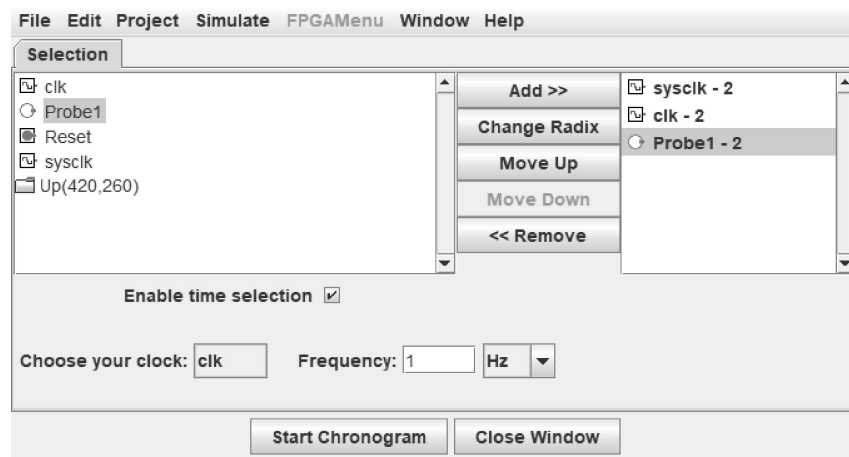

Figure 6.9: Chronogram Ready
9. The *chronogram* setup should look like Figure 6.9.